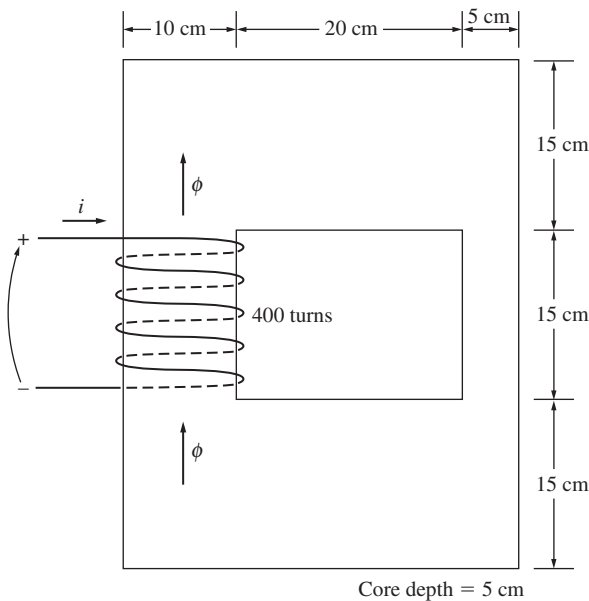

FIGURE P1-2
- 1-5. A ferromagnetic core is shown in Figure P1-2. The depth of the core is 5 cm. The other dimensions of the core are as shown in the figure. Find the value of the current that will produce a flux of 0.005 Wb. With this current, what is the flux density at the top of the core? What is the flux density at the right side of the core? Assume that the relative permeability of the core is 1000.